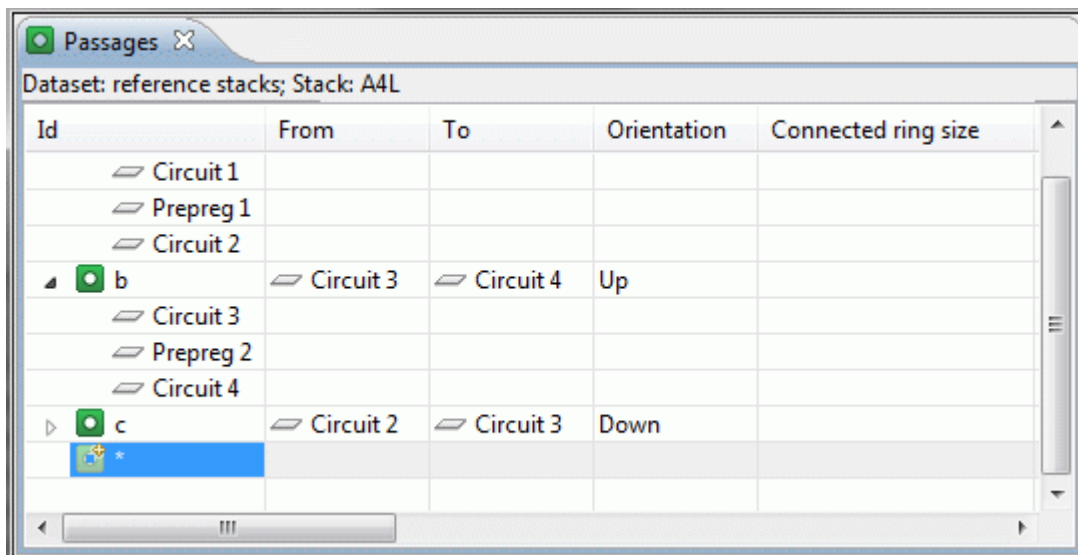

Figure 1. Passages view with highlighted autorow
- Select the autorow in the table (see Figure 1 highlighted cell in **Id** column).